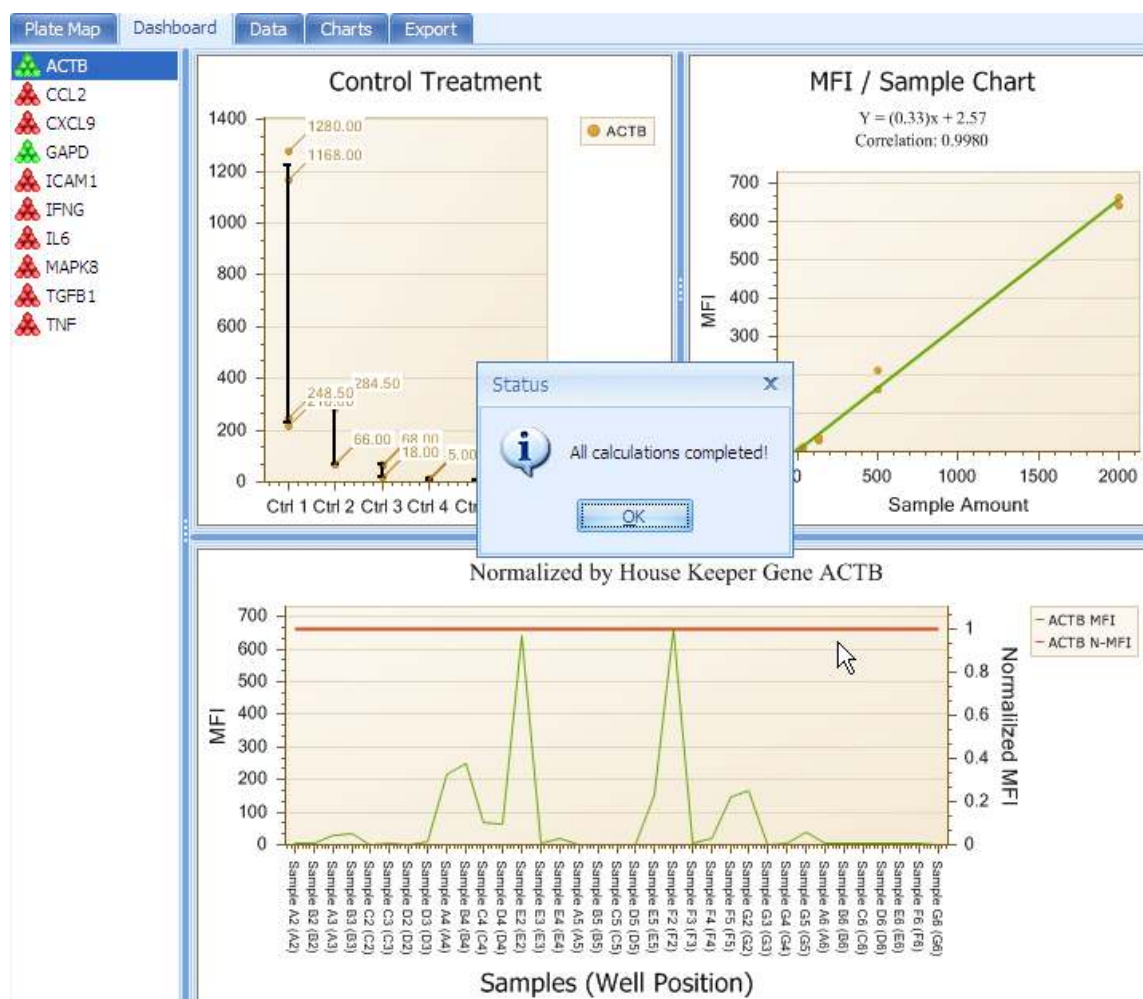

Figure 5.15 Fold Change Calculation
2. Fold changes are calculated after normalization calculation. (Figure 5.15).